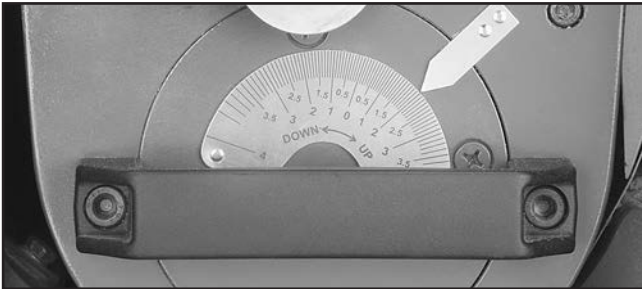

Figure 34. Spiral cutterhead raised to 2mm position on height scale.
4. Loosen the lock handle, turn the adjustment handle up to the 2mm position (**Figure 34**) to raise the cutterhead out of the way—so it will not contact the workpiece—then tighten the lock handle to secure the cutterhead.